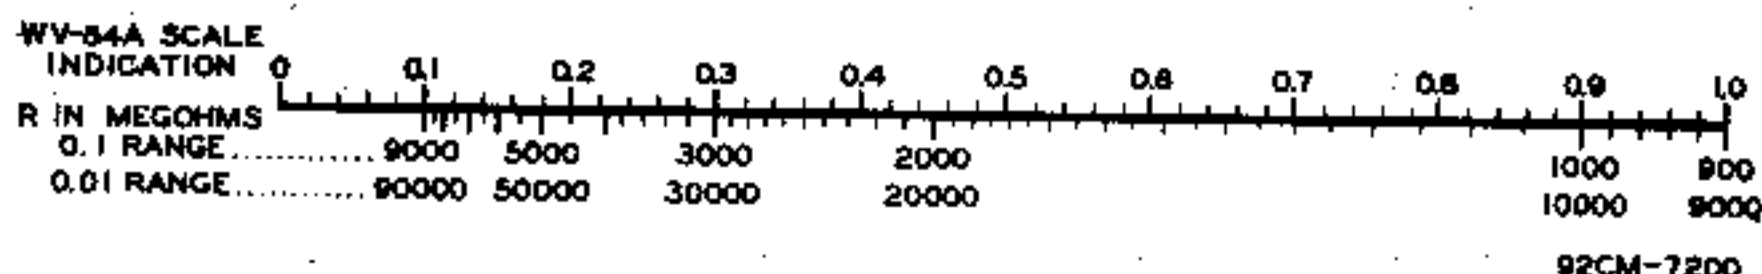

Figure 3. Chart for conversion of scale indication to resistance value
4. Note scale reading, and find the resistance value from the chart shown in Figure 3.
4. Note the scale reading, and find the resistance value from the chart shown in Figure 3.
Note 1: The usefulness of the chart shown in Figure 3 depends upon the voltage of the external battery. If this voltage is higher or lower than 90 volts, the value of the resistance under test must be calculated from Ohm's law; necessary data are given in the "Specifications" section.
Note 2: Resistance values below 900 megohms are usually measured with the VoltOhmyst*. The WV-84A can be used for this purpose, however, if desired. For example, when the RANGE switch is set to the "X1" position, divide the chart value obtained from the "0.1" scale (Figure 3) by 10. Similarly, if the "X10" range is used, divide the chart value obtained from the "0.1" scale by 100.